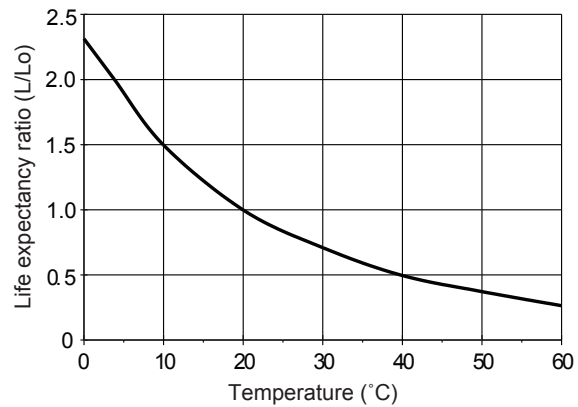

Fig. 9b - Relationship of life expectancy vs. temperature (L0 = life at 20°C)
Figure 9b shows the relationship between life expectancy and ambient temperature. The Y-axis indicates the ratio of life expectancy at a given temperature (L) compared to life expectancy at 20°C (L0). A correlation exists between the sensor's life time and its storage temperature—the life time becomes shorter as the storage temperature increases.